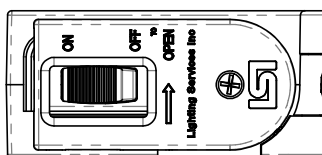

FIGURE 3. FITTING WITH SWITCH ON AND POWER HANDLE CLOSED
4. CLOSE THE POWER HANDLE AND FLIP THE FITTING SWITCH ON (**FIG. 3**).